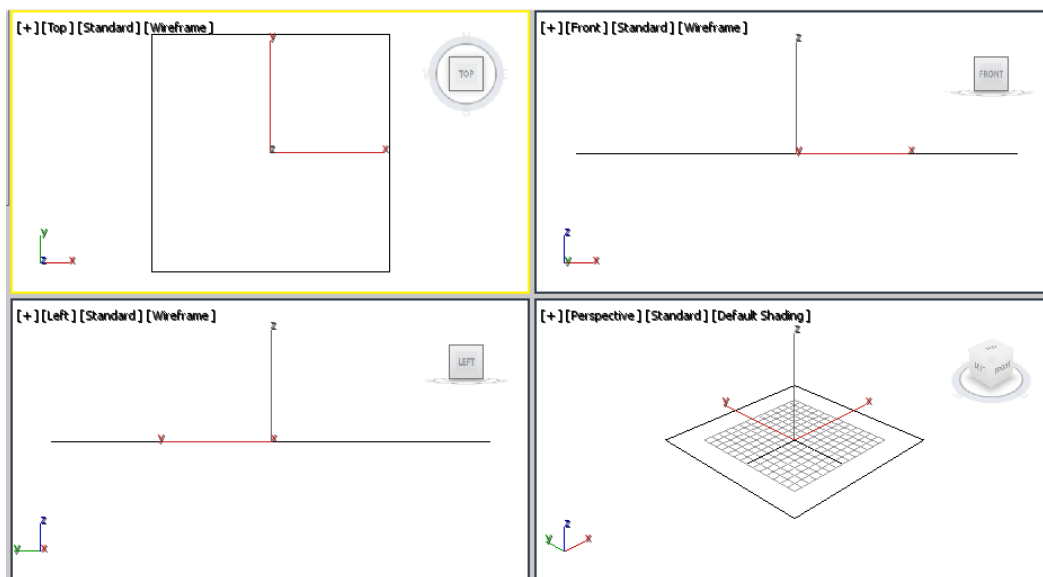

Figure 5-2 The rectangle created for the table top
5. Invoke the **Zoom Extents All** tool from viewport navigation controls to zoom the rectangle to its extents in all viewports, as shown in Figure 5-2.